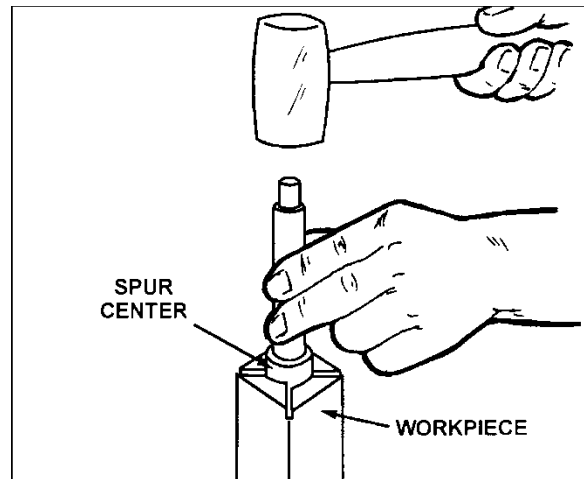

Figure 10-4
3. Drive the spur center about 1/4" into the workpiece, using a wood mallet or dead blow hammer as shown in Figure 10-4. Be careful